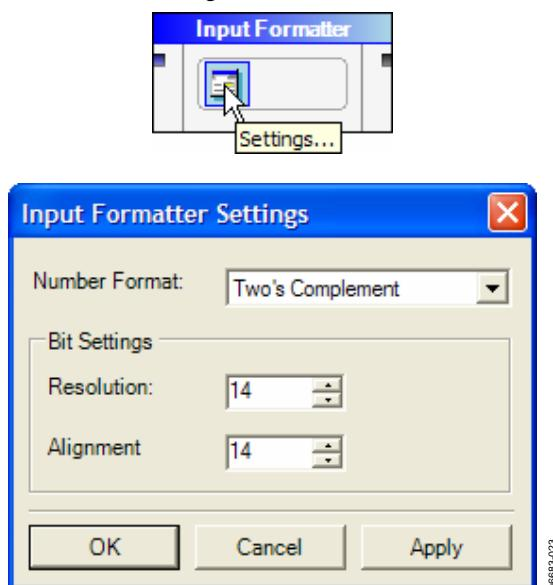
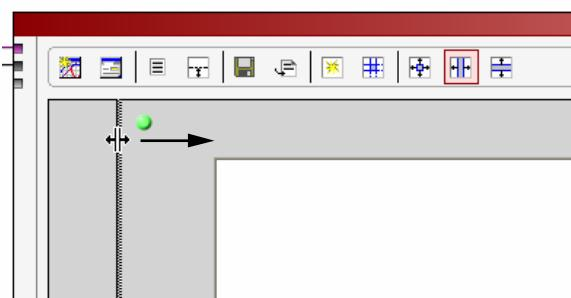

Figure 25. Input Formatter and Settings Form
Figure 27. Resizing Analysis Results
3. In **Input Formatter** (see Figure 25 through Figure 27), click the **Settings...** button. Then change the **Number Format** to two's complement. Next, change both the **Resolution** and **Alignment** to 14. Click **OK**.
Next, resize the **Analysis Results** panel on the left side of the **Graph** component by positioning the mouse cursor over the vertical divider bar and drag to a new location (see Figure 27).